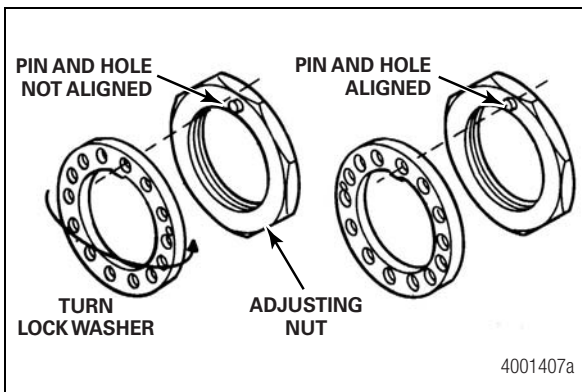

Figure 5.12
6. Install the lock washer. If the hole in the washer is not aligned with the inner adjusting nut pin, remove the washer, turn the washer over and install it. The pin and the hole should now be aligned. If not, slightly adjust the inner adjusting nut. Use whichever lock washer causes the least movement of the adjusting nut. Figure 5.12.